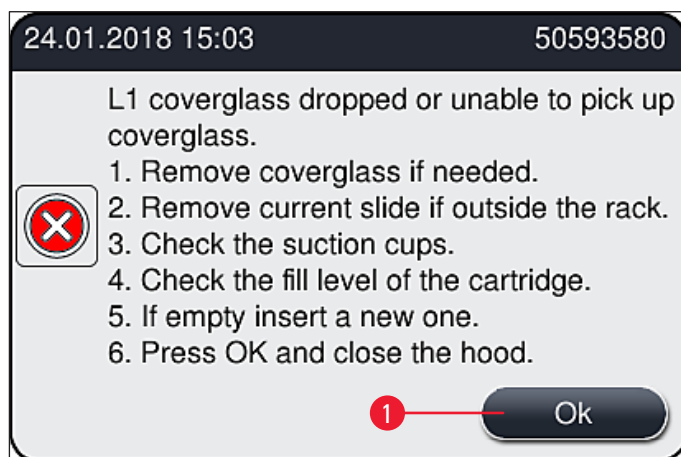

Fig. 109
If the **Pick&Place module** loses a coverglass during transport to the slide or if the **Pick&Place module** cannot remove a coverglass from the coverglass cartridge after 3 attempts, the user is notified of this through an error message (→ Fig. 109).
- ① If this message (→ Fig. 109) is displayed, the user must first check whether a coverglass has been lost during transport to the slide or whether the **Pick&Place module** was unable to take a coverglass from the coverglass cartridge.